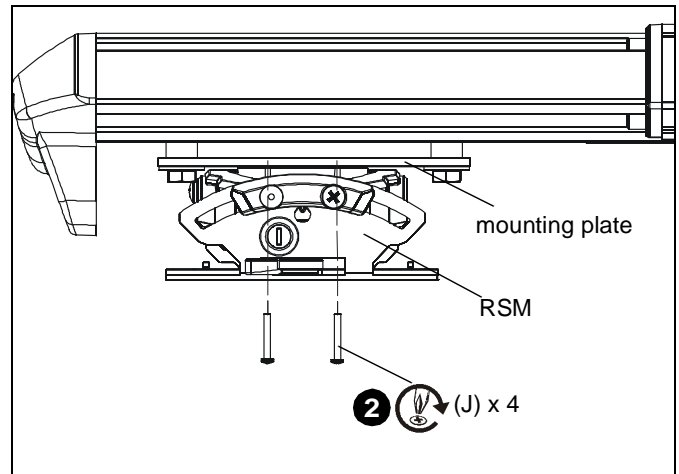

Figure 17
Refer to Figure 17 to determine hole configuration to use for each specific projector mount.
2. Install four #10-24 x 1 3/8" Phillips pan machine screws (J) through RSM holes and into projector mounting plate. (See Figure 17)